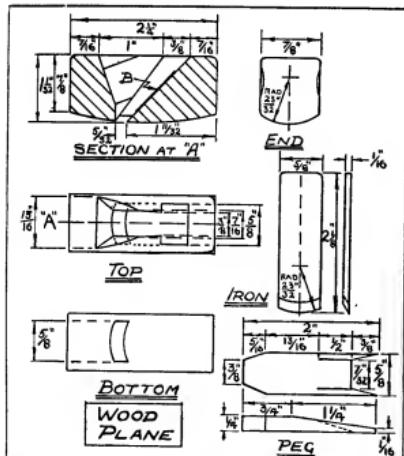
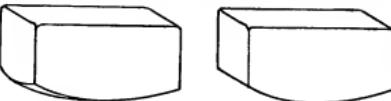
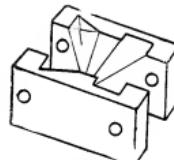

Fig. 125.
Fig. 126.
Fig. 127.
If the photograph, Fig. 120, be studied, a kind of rough discolouration will be seen within the recesses, upon the sloping portion upon which the plane iron rests when in position. This discolouration is really a piece of fine glasspaper (or what remains of it after some years of use), the purpose of which is to grip the blade firmly when the wedge is driven home. In Fig. 125, this simple friction device is indicated by a thick line at (B). This last type of small plane is very suitably made with a rounded working face. Fig. 126 shows some useful arrangements.
Those who do not consider themselves sufficiently familiar with wood carving to attempt the shaping of the recess in one operation, may simplify the job by making the plane in halves. The wooden block should be shaped to the external dimensions, and divided along the line (A) in Fig. 125. The block should be made about $\frac{1}{8}$ " wider, however, to allow for the thickness of the dividing cut, and for finishing. Each side of the recess may thus be carved out fairly simply, but care is required to ensure that the halves exactly tally with each other. On completion, the halves are clamped together, and two $3/16$ " holes are drilled as shown in Fig. 127. The halves may now be glued together and short lengths of round birch dowling are driven through the $3/16$ " holes and glued in, to act as keys.